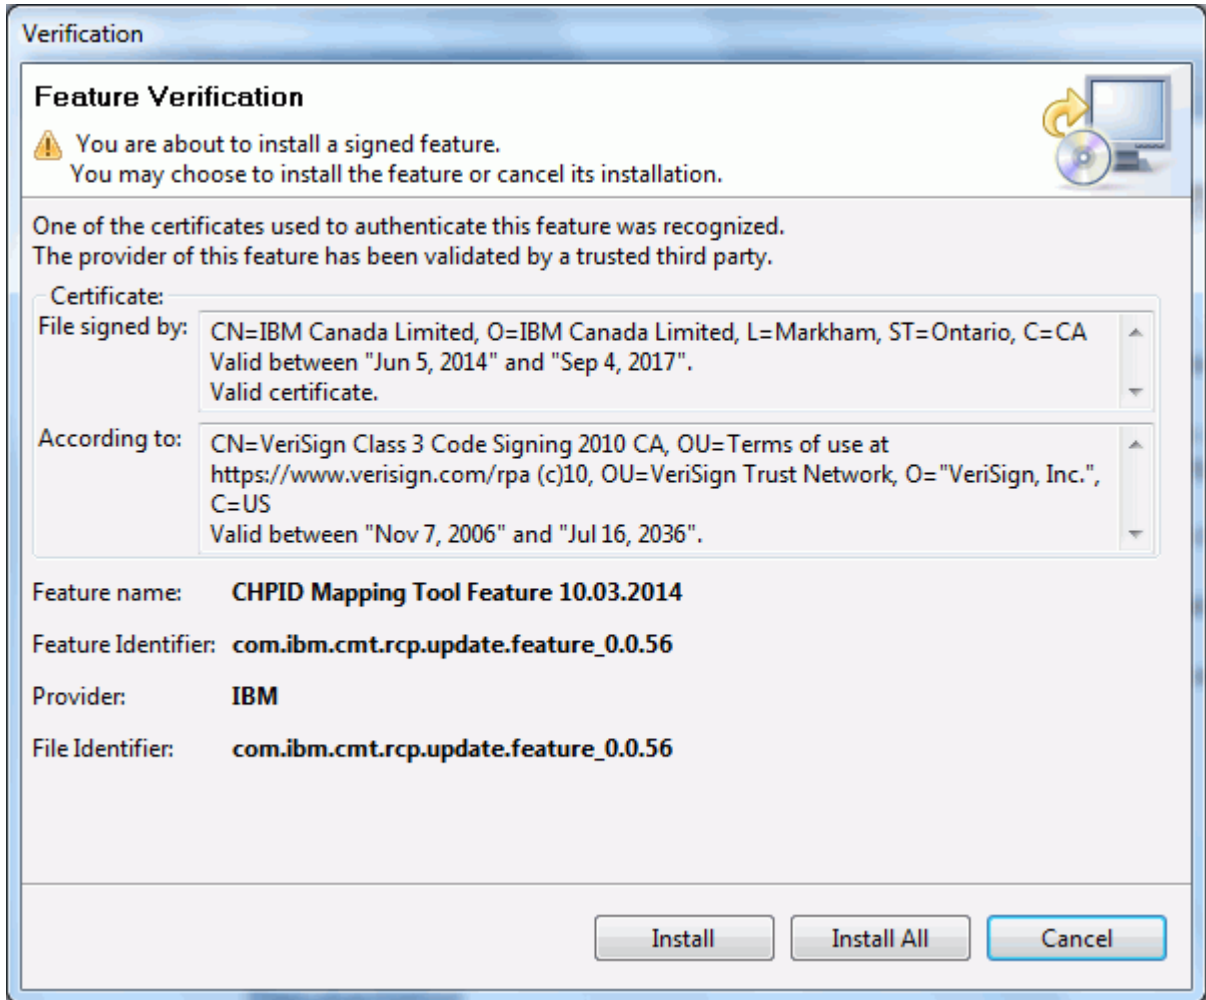

Figure 74. Verification window
- Click **Finish**. The Verification window opens. Figure 74 on page 57 shows this.